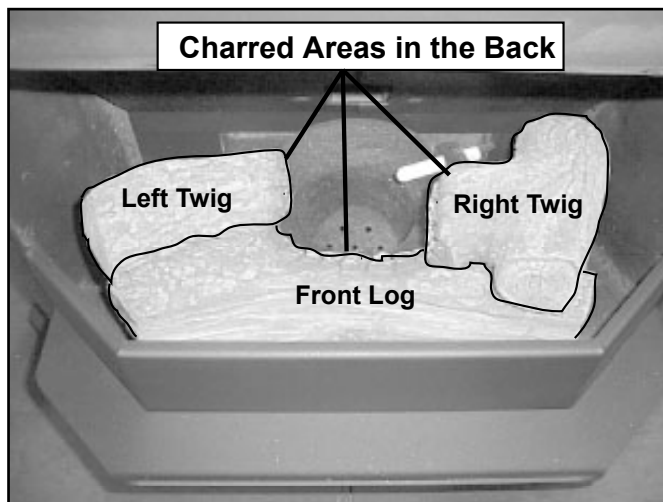

Figure 23.2
2. Set the left and right twigs onto the log, placing the holes in the base of twigs over the locating pins in log. See **Figure 23.2**. Ensure that the charred ends are facing the firepot.